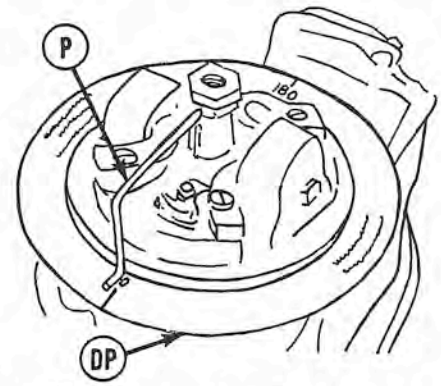

Fig. M8—Synchronizing tool installed for adjusting the magneto points. Refer to text for details.
Breaker point gap should be set at approximately 0.018 on highest lobe of cam. The two sets of points should be set to open at exactly 180 degree intervals. The points may be synchronized by using the Mercury Synchronizing Tool set, part number 91-28619A1 shown in Fig. M8 (or equivalent), plus a timing test light such as that shown
in Fig. M9. To adjust the timing, remove the flywheel and install the degree plate (DP—Fig. M8) and pointer (P). Set the contact points for top cylinder at 0.018. Remove the spark plugs and install the test light by attaching one clip to insulated point connection and the other clip to a suitable ground. Turn the crankshaft clockwise slowly until the points just open as indicated by the test light bulb going out. Turn the degree plate until the 0° timing mark is aligned with the pointer as shown. Attach the test light to the other set of points and turn the crankshaft until timing pointer is aligned with the 180° timing mark on degree plate; then adjust the second set of points to barely open. Recheck both sets of points with the degree plate and timing light. If the synchronizing tools are not available, renew the points or dress the contacts to remove any irregularities, then set each set of points to exactly 0.018 working from the same position on the magneto cam.